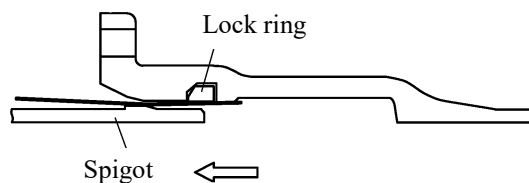

Figure-48 Pulling out the pipe
- (4) Align the pipe with a crane, and then pull it out. (See Figure-48.)